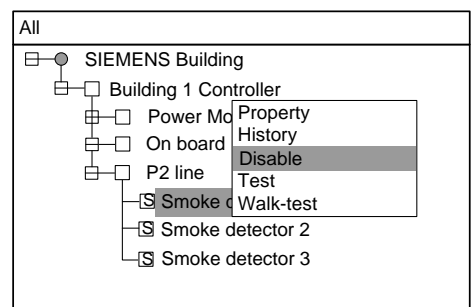

Fig.12-4
3. Press “→” to pop out the shortcut menu (Fig.12-4). Use “↓” to select “Disable” and press “OK” to disable the selected equipment.